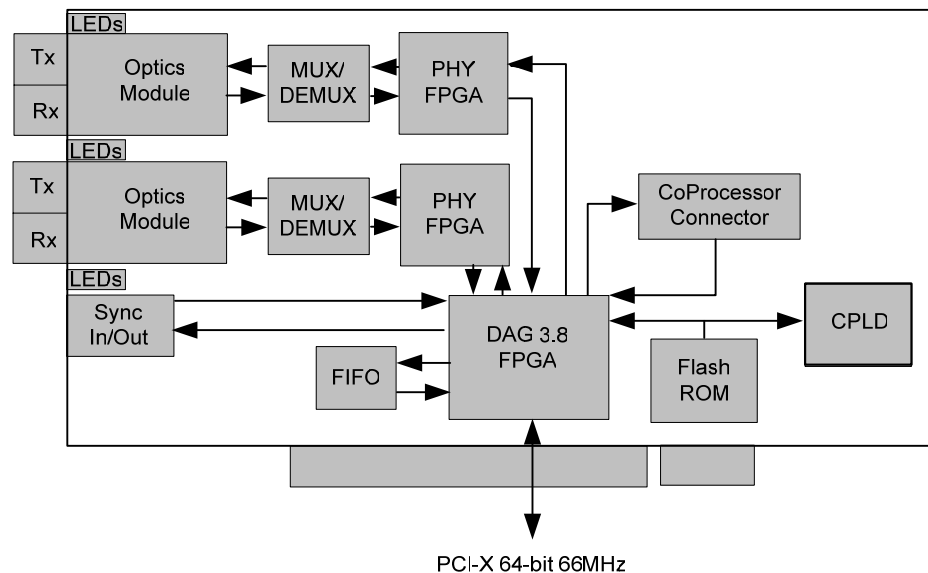

Figure 1-2. DAG 3.8S Card Major Components and Data Flow.
**Figure** Figure 1-2 shows the DAG 3.8S card major components and data flow.